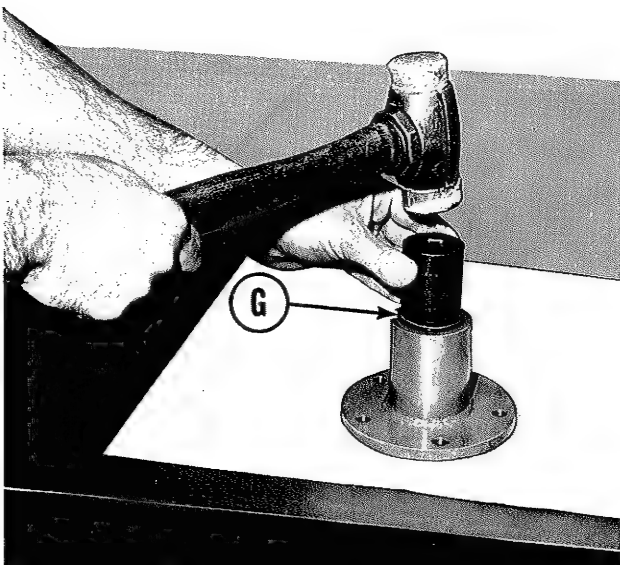

Figure 38. Pressing grease seal into front wheel hub.
10. Put the inner bearing in place in the bearing housing and press a new grease seal (G) in place as it is shown in figure 38.
15. Replace the dust cover (A).